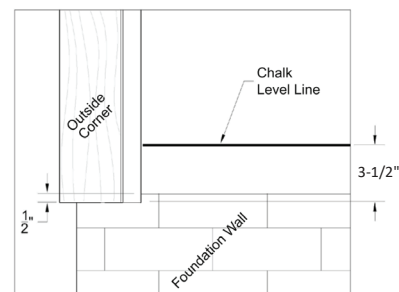

Figure 2
- Measure & chalk a level line 3-1/2" up from the lowest point of the wall (Figure 2).